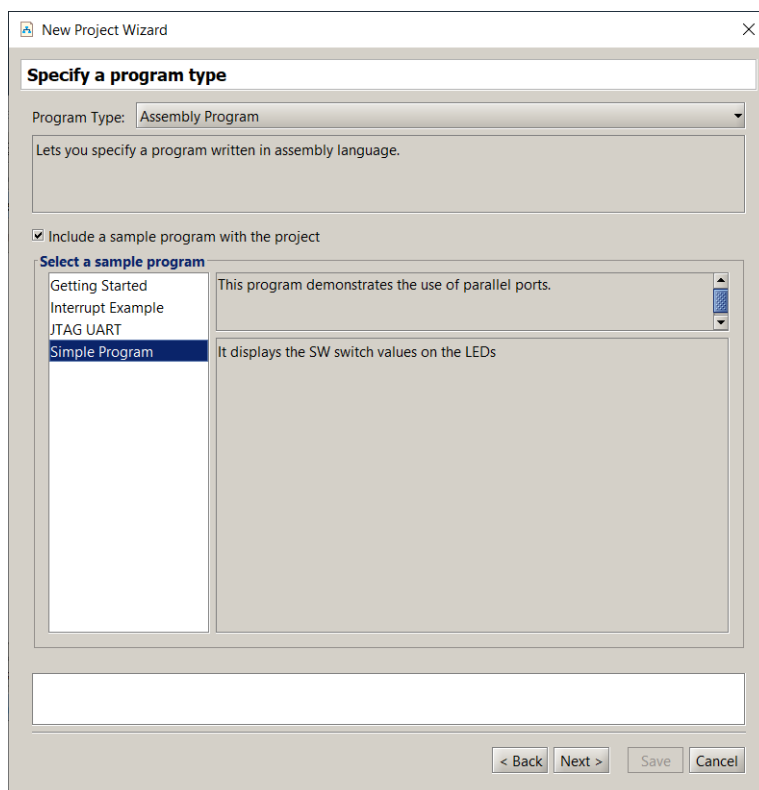

Figure 7. Selecting a program type and sample program.
3. Click **Next** to advance to the screen in Figure 7, which is used to specify the program source files that are associated with the project. The **Program Type** drop-down list can be used to select one of the following program types:
As illustrated in Figure 7, several sample assembly-language programs are available for this prebuilt computer. For our tutorial select the program named *Simple Program*. This is a very simple program which continuously reads the state of the slider switches on the DE1-SoC board and displays their state on the red LEDs. The source code for the program is: